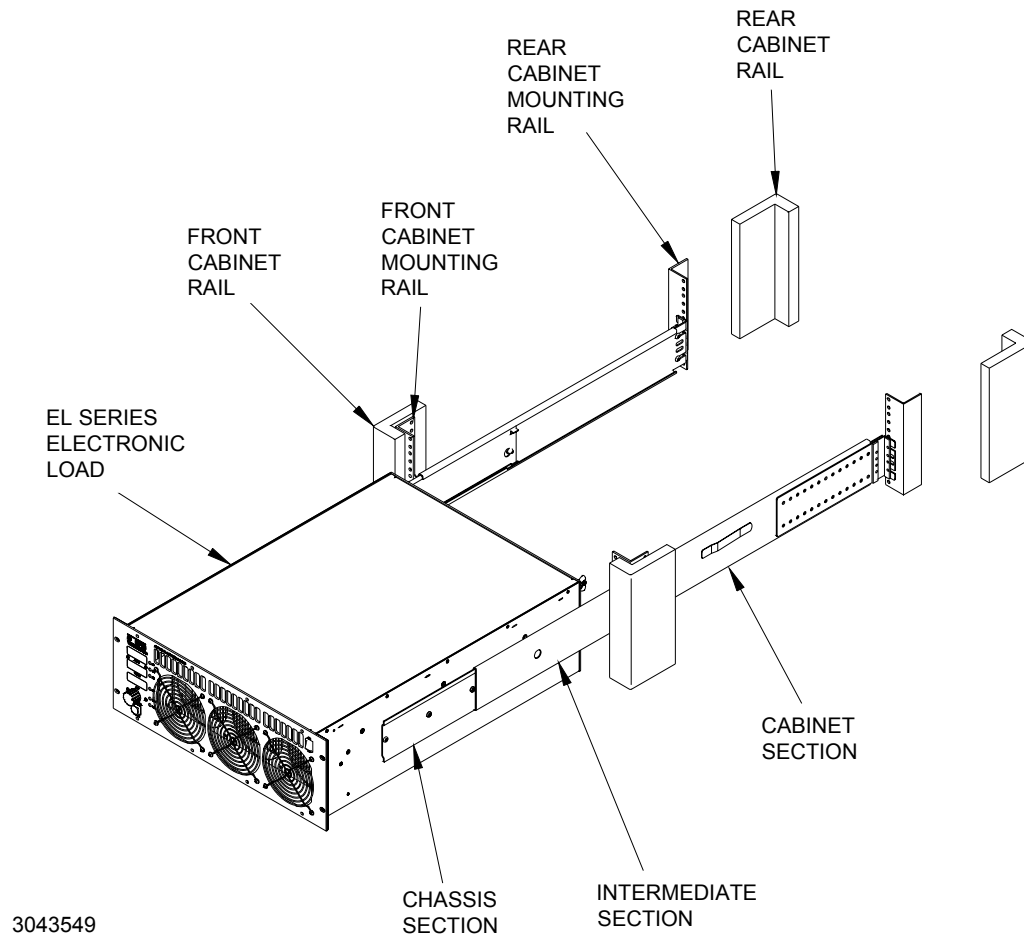

FIGURE 4. ATTACHING CABINET SECTION TO RAIL
- Attach front and rear cabinet mounting rails (with cabinet and intermediate sections of slide attached) to the cabinet rail (attaching hardware not supplied) (see Figure 4).